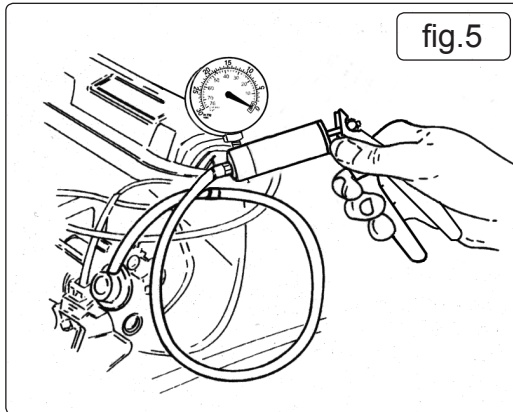

fig.5
6.3.3. Simply remove and block off the vacuum supply line to the pressure regulator, connect and operate the VS4021 vacuum pump (fig.5) to simulate vacuum pressures in accordance with the manufacturer's specifications and note variation in fuel pressure reading.